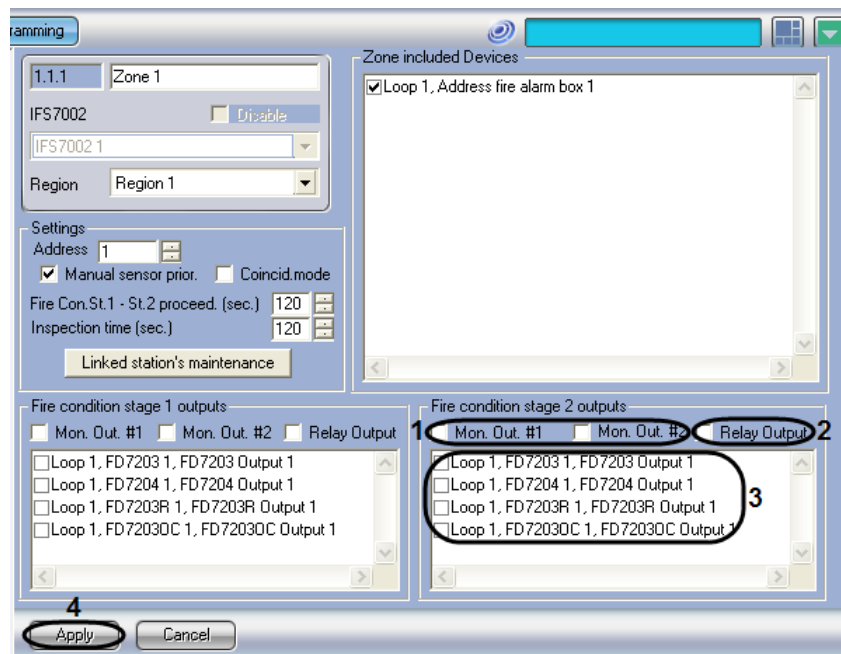

Fig. 3.7—7 Configuring the outputs that will be employed under Fire Condition 2 in a zone.
1. Go to the settings panel of the “Zone” object (Fig. 3.7—7).
2. If the external devices controlled by the controllable outputs of the IFS7002 FCP must be employed under “Fire Condition 2” then check the required “Mon. Out.# ..” checkboxes in “Fire Conditions Stage 2 Outputs” group (see Fig. 3.7—7, 1).
3. If the external devices controlled by the relay output of the IFS7002 FCP must be employed under “Fire Condition 2” then check the “Relay output” checkbox in “Fire Conditions Stage 2 Outputs” group (see Fig. 3.7—7, 2).
4. If the external devices controlled by the outputs of the addressable modules must be employed under “Fire Condition 2” then flag the required outputs (see Fig. 3.7—7, 3).
5. To save the settings into the Intellect internal DB, click the “Apply” button (see Fig. 3.7—7, 4).